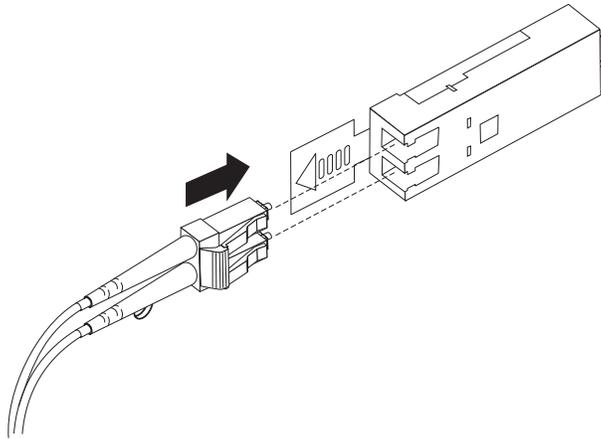

Figure 26. Inserting an LC-LC Fibre Channel cable into an SFP module
4. Carefully insert this end of the LC-LC cable into an SFP module that is installed in the storage subsystem. The cable connector is keyed for correct installation. Holding the connector, push in the cable until it clicks into place, as shown in Figure 26 on page 33.